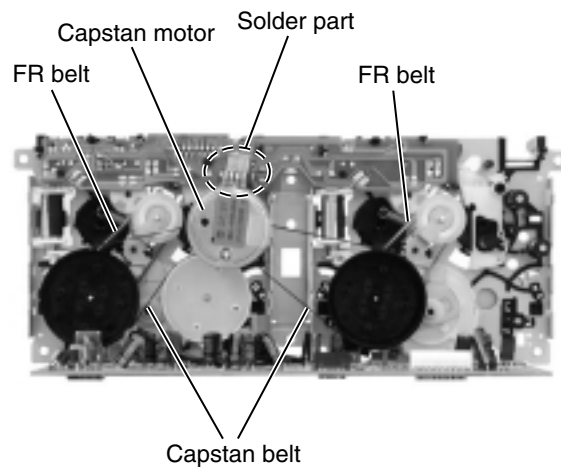

Fig.7
■ **Removing the Capstan belt (See Fig.7)**